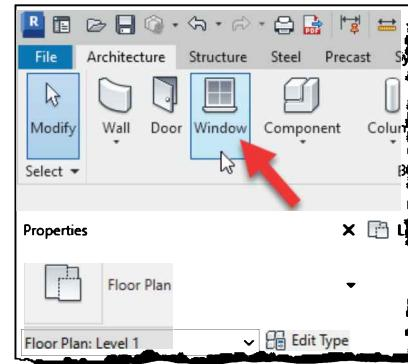

FIGURE 2-3.1 Window tool
2. Click **Architecture** → **Build** → **Window** (Figure 2-3.1).